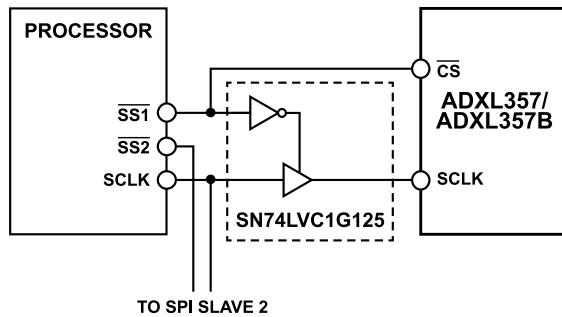

Figure 92. SCLK Protection Example
Use a gated buffer on the SCLK line for the ADXL357/ADXL357B device to achieve the ultralow noise performance and possibly offset shift when the ADXL357/ADXL357B must share a SPI bus with another subordinate device. This gated SCLK allows the clock signal through only when the chip select (CS) line is low. See Figure 92 for the example circuit that provides this type of protection.